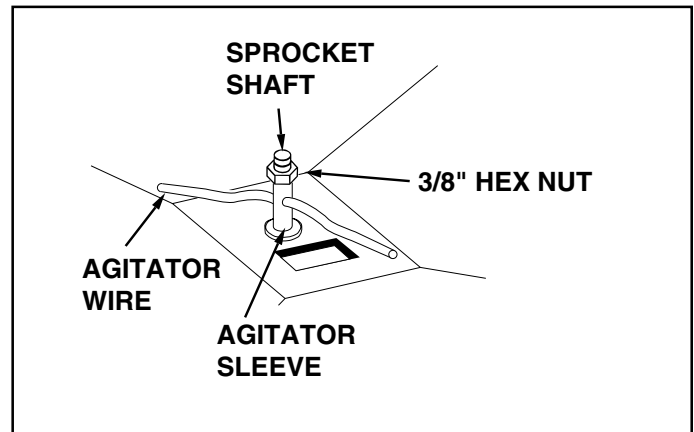

FIGURE 15
2. If the agitator wire becomes damaged or worn it can be replaced. Loosen the 3/8" hex nut on top of sprocket shaft until agitator wire is free. Remove old agitator wire from hole in agitator sleeve and replace with new agitator wire. Position agitator wire so that sprocket shaft turns freely, then tighten 3/8" hex nut on top of sprocket shaft. See figure 15.